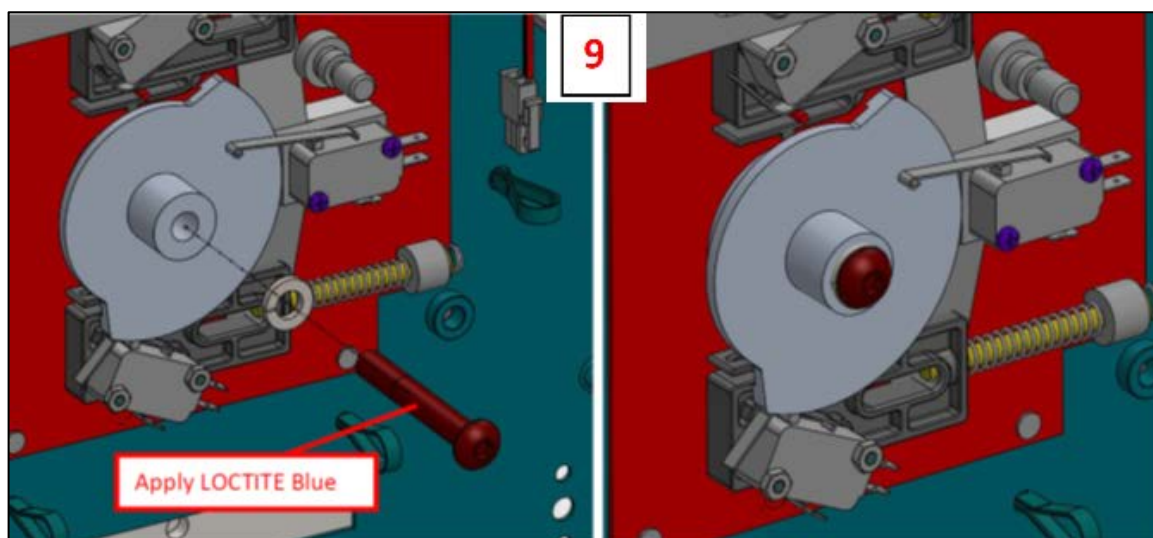

Figure 9: Mounting CAM
11. Apply Loctite Blue on 5-8 threads of the new screw from the kit. Install the split washer and screw. See **Figure 9**.